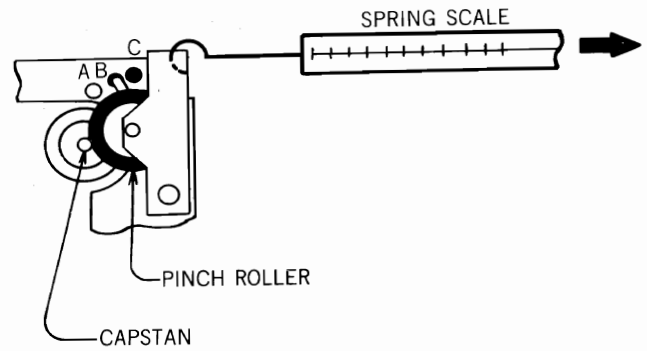

Fig. 6
- ① In FWD mode, hook a spring scale to the pinch roller as shown in Fig. 6.
- ② Take a reading only when the pinch roller is pulled backward by the spring scale and then start to return towards the capstan, because the force required to overcome the static friction will produce a falso and excessively high initial readings.
- ③ The reading should be 270 to 370g.